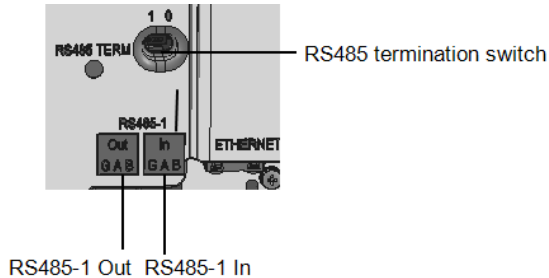

Figure 43: RS485 connectors and termination switch
10. Push the RS485 terminal blocks firmly all the way into the connectors on the communication board, see *Figure 43*.
11. Terminate the first and last inverters on the bus by moving the termination switch to ON (left position); See *Figure 43*. The other inverters on the bus should have the termination switch OFF (right position).